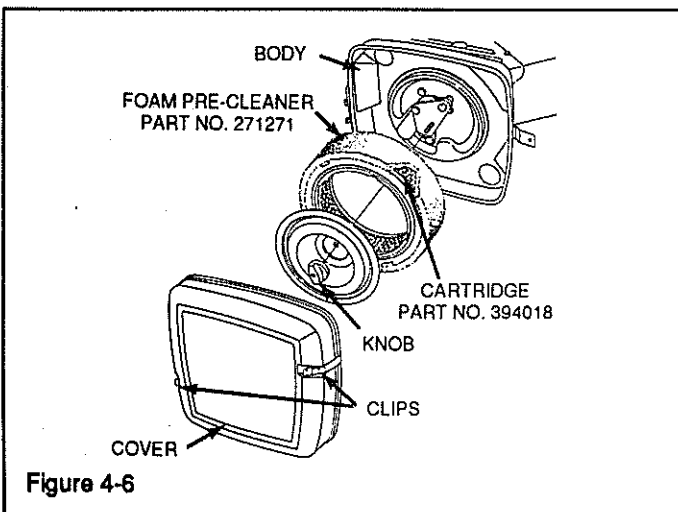

Figure 4-6
4. Round Dual Element: Figure 4-6.